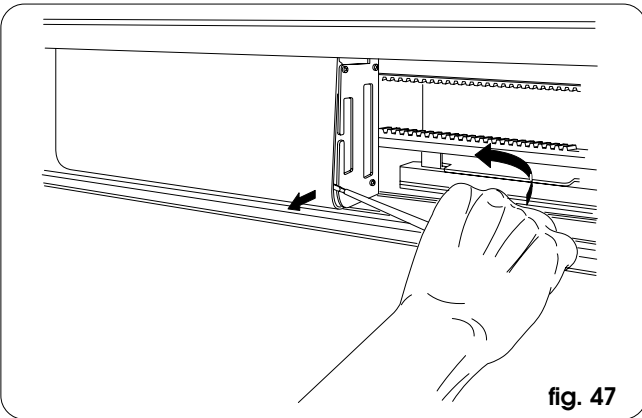

fig. 47
- To remove the covers protecting the SDM control board and transformer, lever gently with a screwdriver as shown in fig. 47.